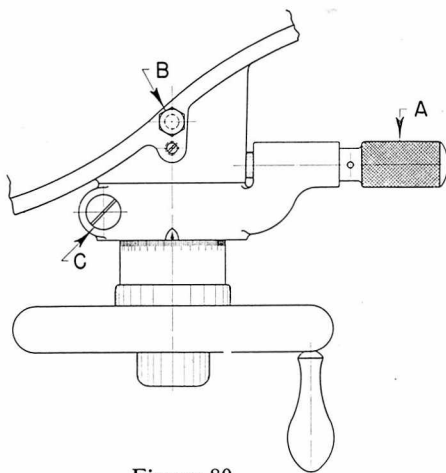

Figure 80
1. Loosen screw "B" (Fig. 80).
The driving worm of the 16" attachment may be entirely disengaged from the worm-wheel by moving lever "A" (Fig. 80) to the right until the pin falls into the lower pin hole. The table is then free to revolve independently of the worm.